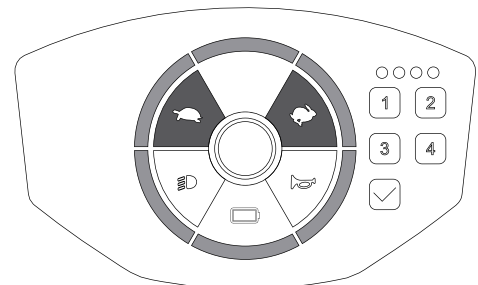

Figure 9
- Press the power switch to get the scooter on power standby (red light on), then press and hold both acceleration [🏍️] / deceleration [🏍️] buttons for 2 seconds. The panel light will be all on when scooter is ready for back-light setting. (Figure 9)